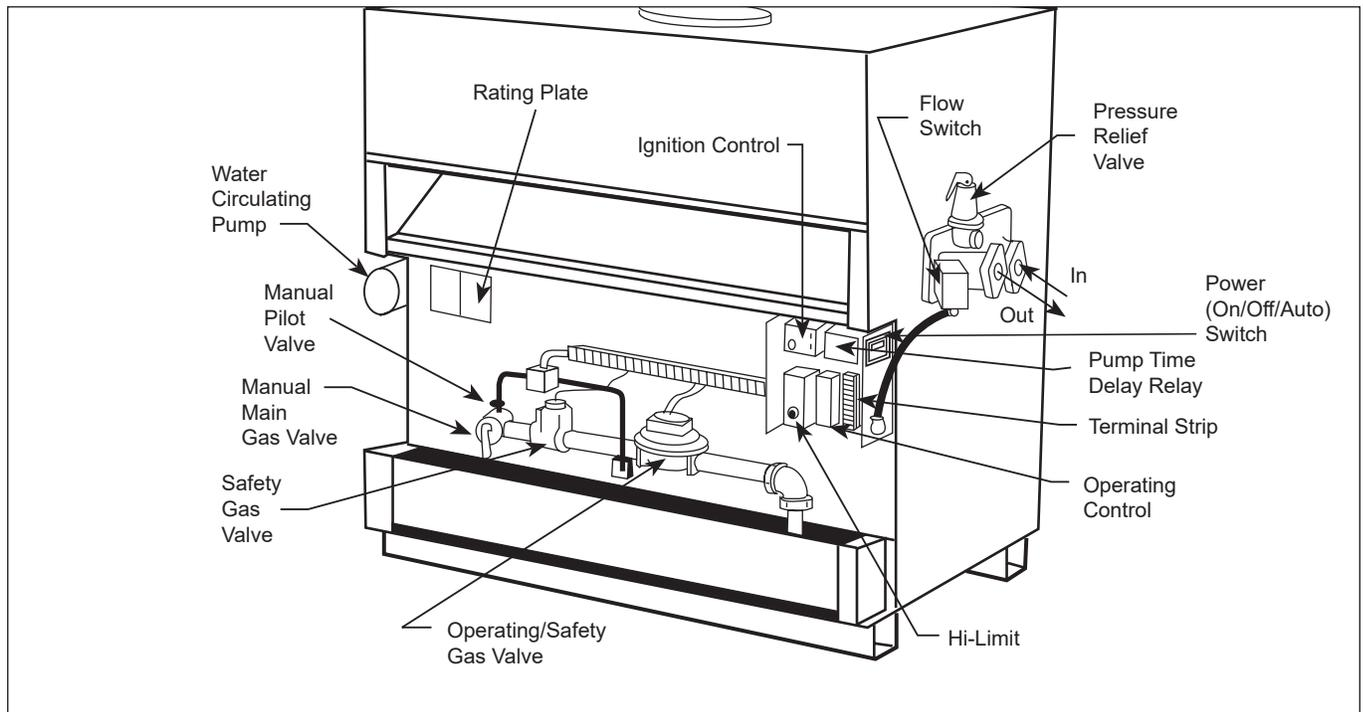

Figure 11. Controls Location.
3.1 Controls - General (see Figures 11 and 12)
- An adjustable pump time delay relay is mounted in the control panel (see Figure 11). This relay keeps the pump running after the burners shut off. The delay should be set to 10 minutes.